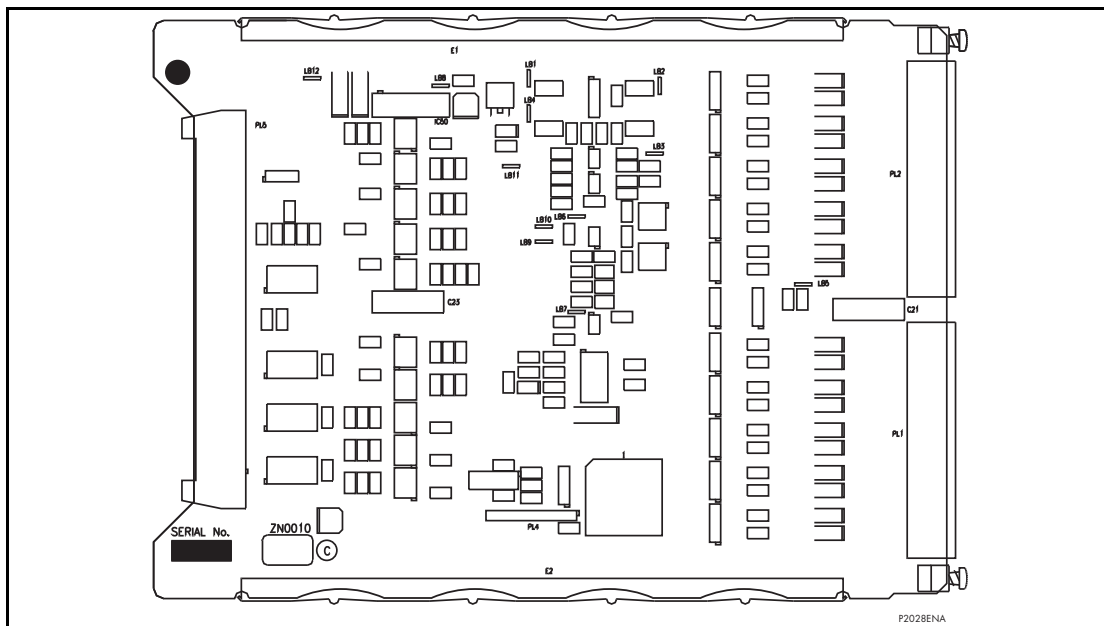

Figure 11: Typical RTD input board
1. To replace a faulty CLIO board, first remove the two 15-way terminal blocks, each is fastened to its other half by slotted screws above and below the row of terminals, as shown in Figure 11. Remove these screws carefully as they are not captive in the terminal blocks.
3. The CLIO board is secured in the relay case by two screws accessible from the rear of the relay, one at the top and another at the bottom, as shown in Figure 11. Remove these screws carefully as they are not captive in the rear panel of the relay.